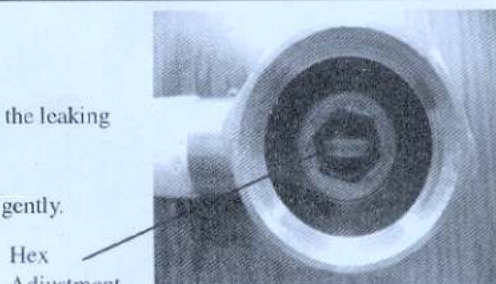

Figure 8
- Using a 3/8" hex key, insert key into hex opening as seen in figure 8 and tighten threaded insert gently.